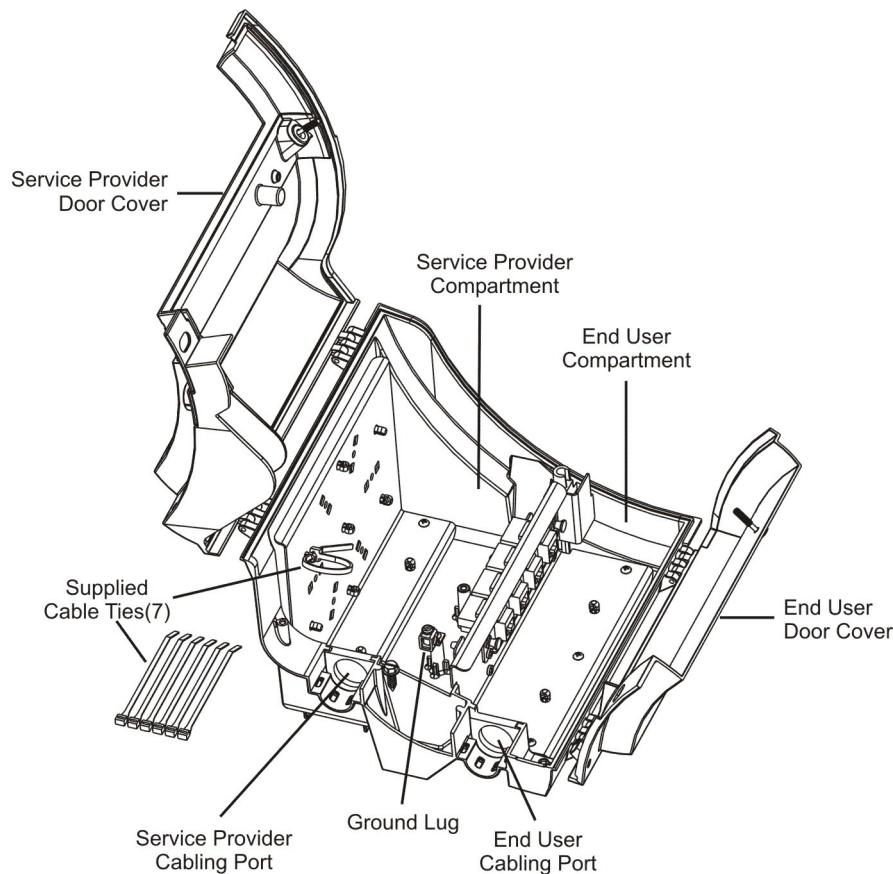

Figure 2. EM02-402 Description
3.1 The EM02-402 is a die-cast aluminum designed housing with separate compartments, cable entry ports, and door covers for the Service Provider and End-User, respectively. Refer to Figure 2 for details.